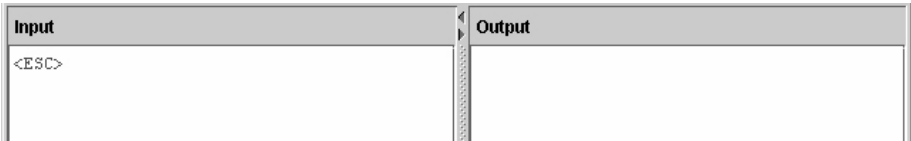

Figure 156. Mnemonics Entry Mode
40. Right-click the Input window and select **View ▶ Mnemonics**. To enter the Mnemonics entry mode. Notice the 1B changed to <ESC>. See Figure 156.